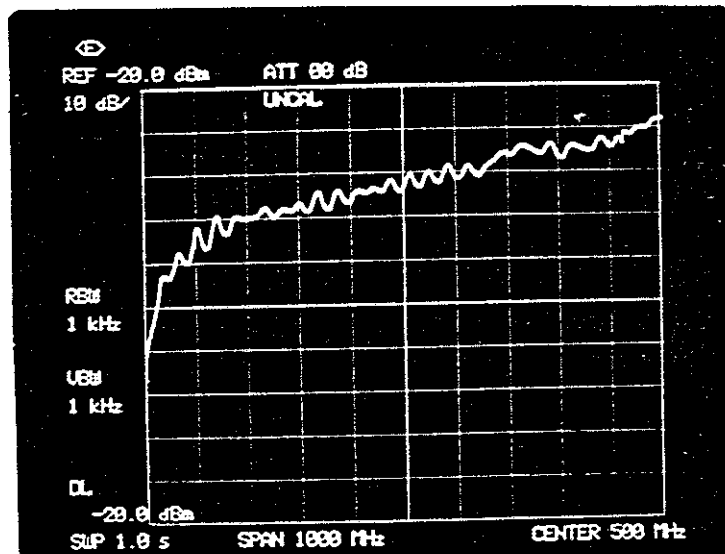

Figure 3-7 Waveforms if loop antennas I are mounted correctly
- (7) When the loop antennas are mounted correctly to have the same spiral direction (as shown in Figure 3-2), the waveforms shown in Figure 3-7 will be displayed.